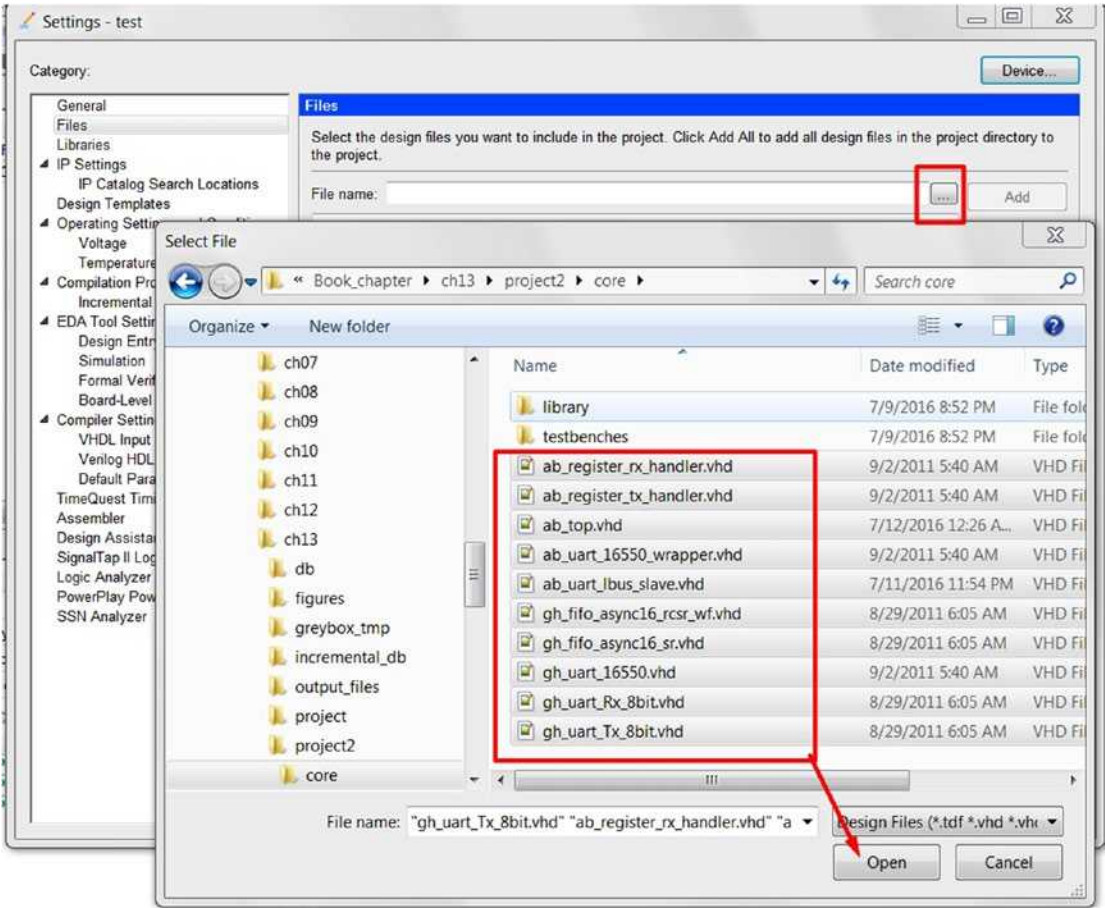
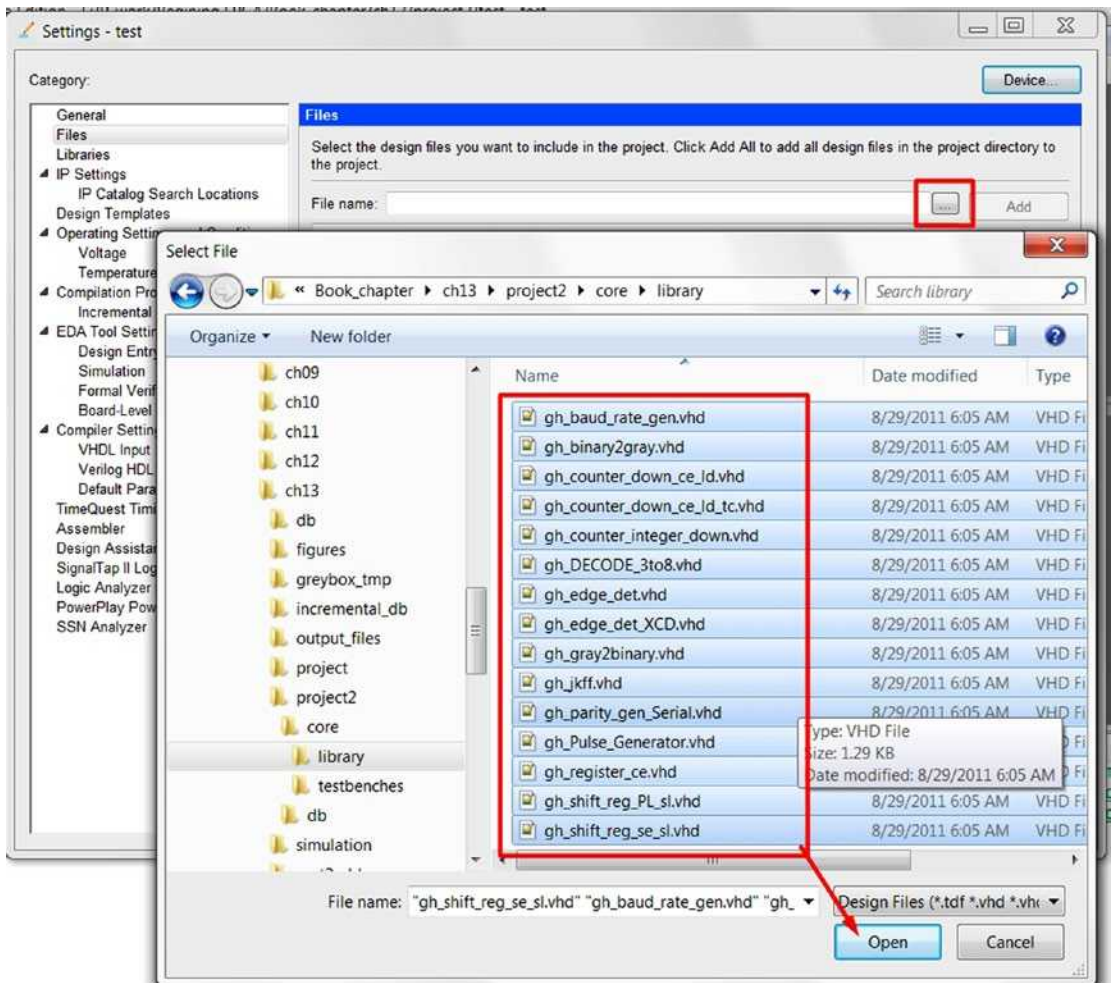

Figure 13-24. File list of UART 1650 IP core
Figure 13-25. File list of UART 1650 IP library
1. Project ► Add / Remove Files in the project and add all of the files from the `uart_16660_wrapper` IP (under the core Figure 13-24 and core/library Figure 13-25)